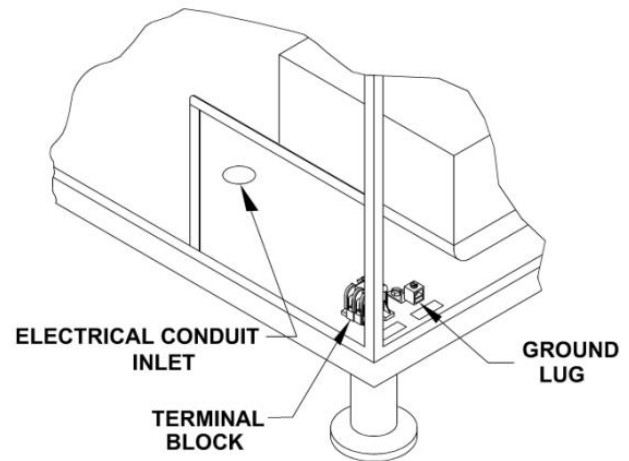

Figure 3-4
4. Make the electrical connection using flexible conduit, per local code. See Figure 3-4.